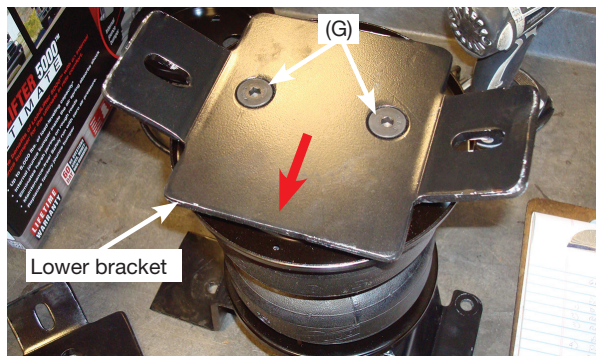

Fig. 14
4. Install the lower bracket (C) onto the bottom of the air spring using the flat-head screws (G) (fig. 14). Torque to no more than 20 lb.-ft. (27Nm).